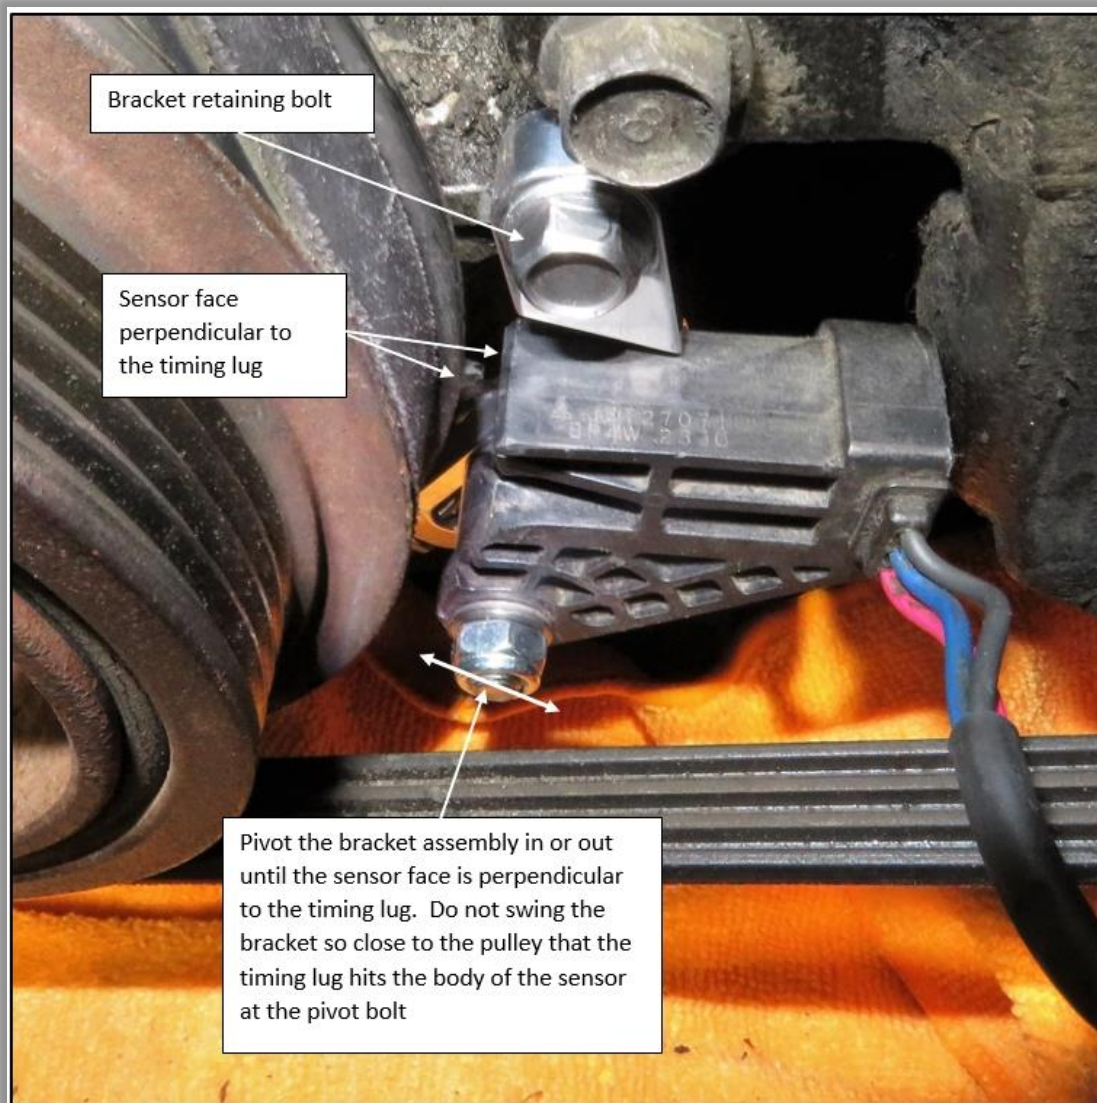

Figure 4
- Swing the bracket toward or away from the belt pulley. Watch the orientation of the face of the sensor and the timing lug. The face of the sensor needs to be perpendicular to the timing lug. This allows the timing lug gap to be set properly. When the face of the sensor is properly oriented to the lug tighten the bracket mounting bolt. See figure 4